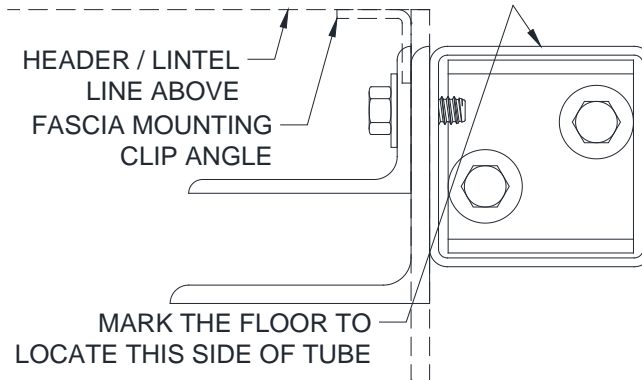

Figure 5.11 - Fascia Mounting Clip Angle
- Determine where the fascia of the door will be located with respect to the header/lintel (if one exists) and the jamb. In this configuration, the fascia mounts to clip angles located on the front of the bracket. See **Figure 5.11**.